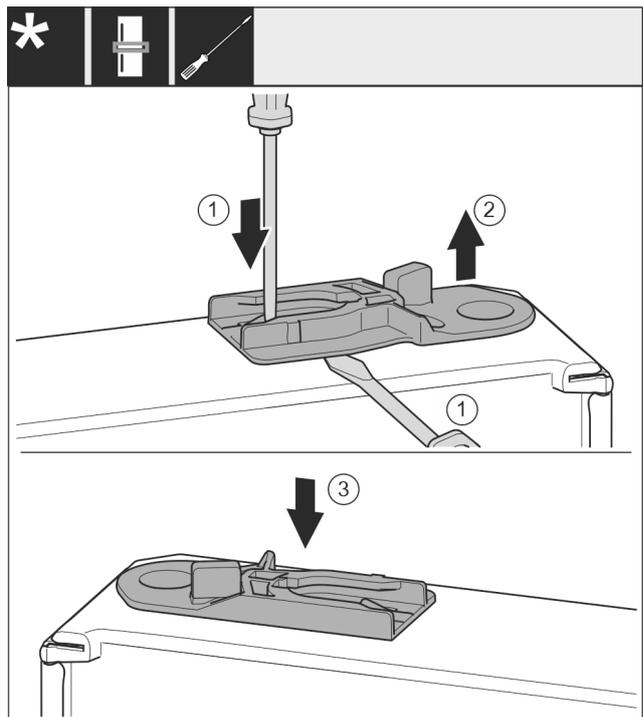

Fig. 45
- ▶ Appliances with closing damper: Pull out the guide bush: Press the tab Fig. 45 (1) with a flat-blade screwdriver and at the same time move the flat-blade screwdriver under the guide bush Fig. 45 (2).
- ▶ Appliances with closing damper: Insert the guide bush Fig. 45 (3) supplied on the other side of the housing.